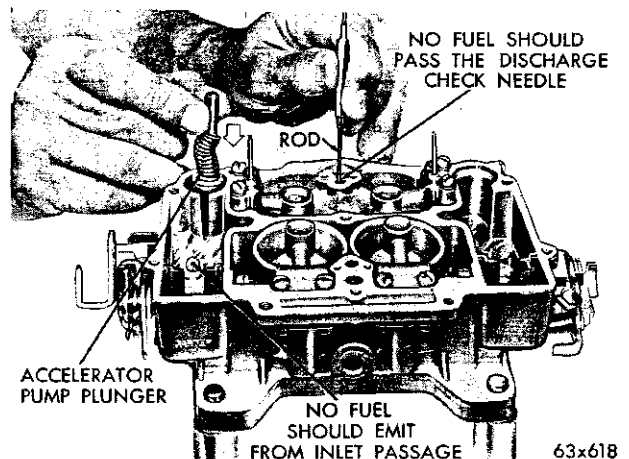

Fig. 71—Testing the Accelerator Pump Check Ball and Discharge Needle
(3) Using a small clean brass rod, hold the discharge check needle firmly down on its seat. Again raise the plunger and press downward. No fuel should be emitted from the discharge or the intake passage, as shown in Figure 71.